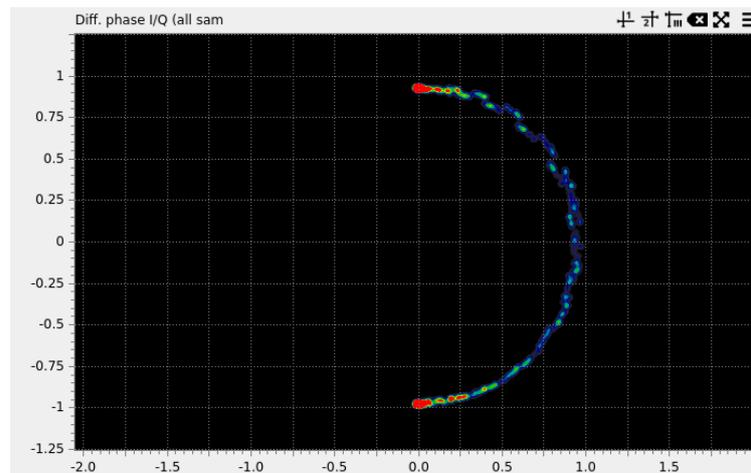

Figure 57: Differential phase I/Q diagram.
The *Differential I/Q* diagram, as in Figure 57, can be used to distinguish constant envelope CP-FSK emissions (including (G)MSK) from other non-constant envelope modulations as PSK, OQPSK or QAM.